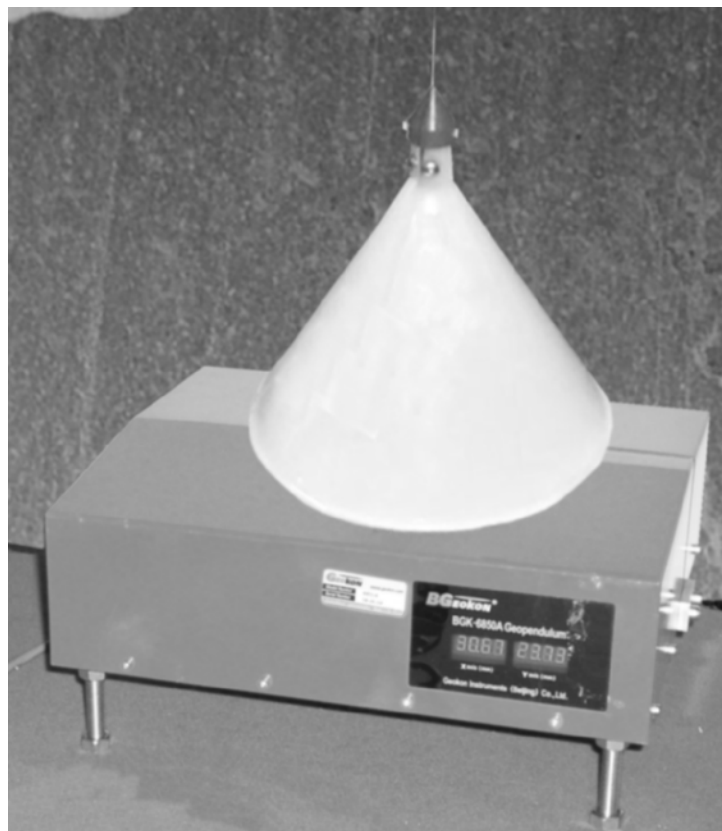

Figure 12 - Conical Drip Shield Installed
- 14) If a conical drip shield was purchased, use the wrench provided to tighten the nylon set screws onto the pendulum wire. Leave about a one-centimeter gap between the shield and the cabinet (Figure 12).